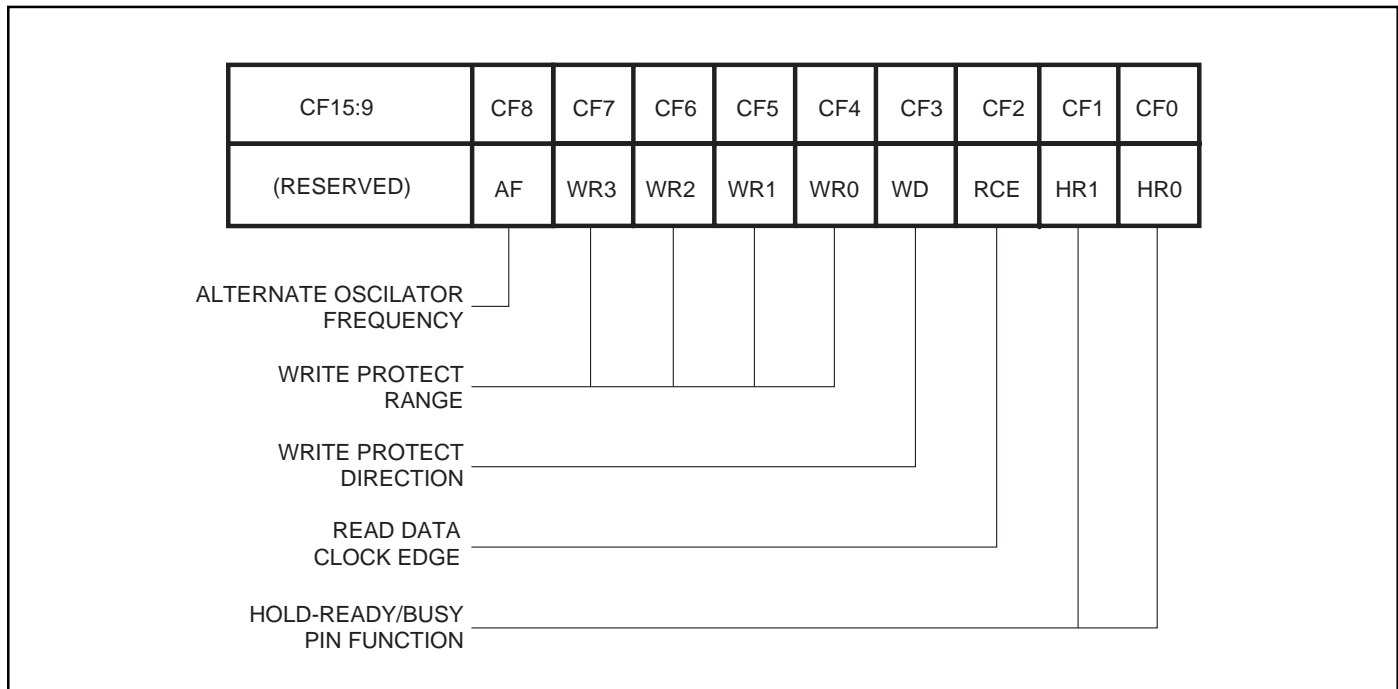

Figure 6. Configuration Register Bit Locations
All commands and data written to the Serial Input (SI) are clocked relative to the rising edge of the Serial Clock (SCK). By default all data read from the Serial Data Output (SO) is clocked relative to the falling edge of SCK, allowing compatibility with standard SPI systems. The user may specify reading relative to the rising edge of SCK by changing the setting of the RCE bit in the Configuration Register (see Figure 6). Clock rates of up to 16 MHz for 5V devices and up to 8 MHz for 3V devices are supported.
The Configuration Register stores the current configuration of the HOLD-R/B pin, read clock edge, write protect range, and alternate oscillator frequency (Figure 6). The configuration register is accessed using the *Write and Read Configuration Register* commands. The non-volatile configuration register will maintain its setting even when power is removed.